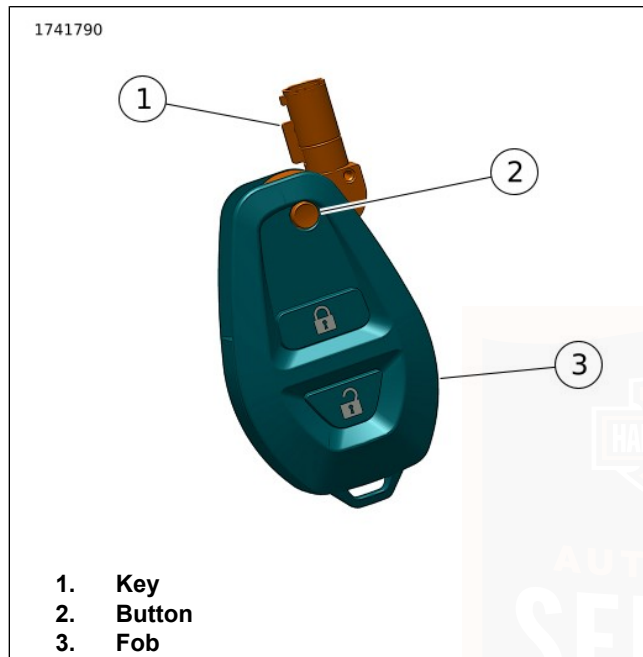

Figure 22. Key Operation
**Extend key:** See Figure 22. Press the button (2) to extend the key.
1. See Figure 22. Press button (2) to extend key (1).